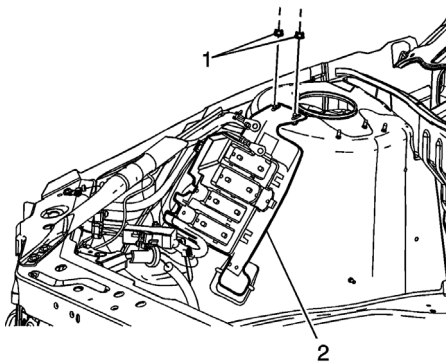

Fig. 4 Electrical center bracket fastener removal
7. Remove fasteners (1) securing electrical center bracket (2) to vehicle, **Fig. 4**.
6. Install fasteners (1) securing electrical center bracket (2) to vehicle, **Fig. 4**. **Torque** fasteners to 86 inch lbs.